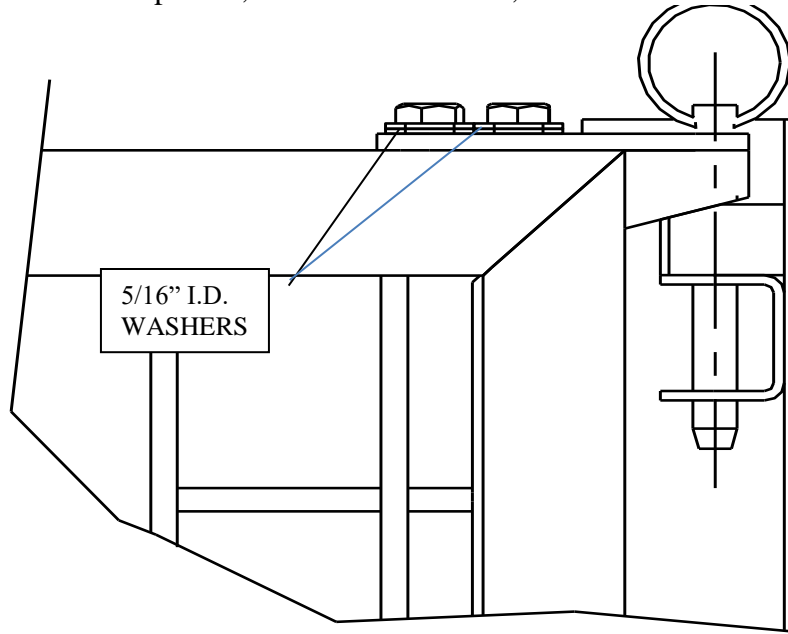
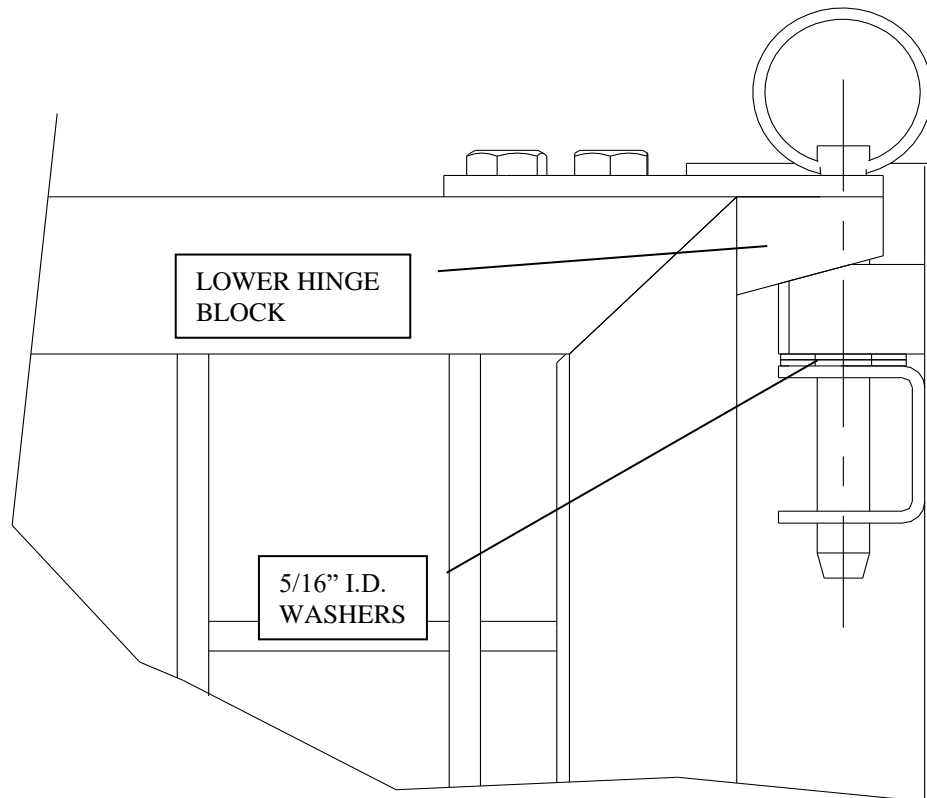

Figure 10
Figure 11
1. Minor adjustments can be made to the division panels to adjust the pressure being applied to the floor seal. Your division panels are built with extra washers that can be used for this purpose. Remove the top bolts, remove the washers, and re-install the bolts. See figure 10.
2. To raise the panel remove the washers shown in figure 10. These 5/16" I.D. washers can be inserted below the lower hinge block as needed. See figure 11.